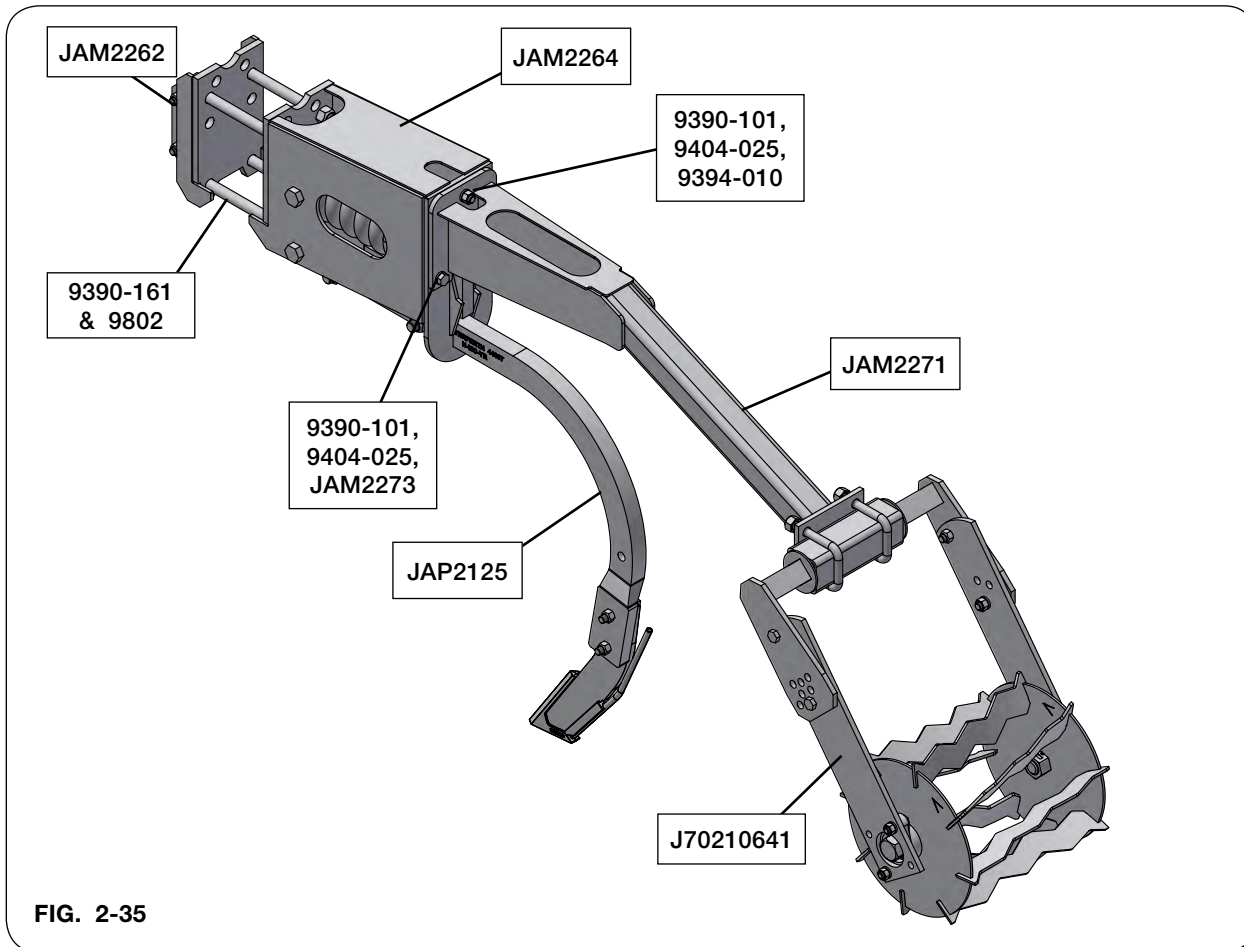

FIG. 2-35
1. Using a safe lifting device rated at a minimum of 150 lbs., secure MaxPac row unit (JAM2264) with 1 1/4" x 2" EdgeBent shank (JAP2125) with backing plate (JAM2262), 3/4"-10UNC x 8" capscrews (9390-161) and 3/4"-10UNC locknuts (9802). (FIG. 2-35)
2. Using a safe lifting device rated at a minimum of 100 lbs., secure MaxPac basket mount weldment (JAM2271) and torsion arm assembly (J70210641) to the MaxPac row unit (JAM2264) with two nut plate weldments (JAM2273), one 1/2"-13UNC hex nut (9394-010), three 1/2" lock washers (9404-025), and three 1/2"-13UNC x 1 1/2" capscrews (9390-101). (FIG. 2-35)